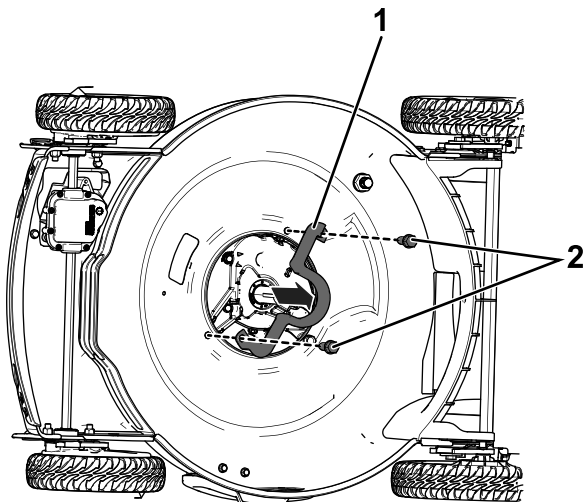

Figure 3
7. Remove and discard the metal belt guide and 2 corresponding bolts (Figure 3).